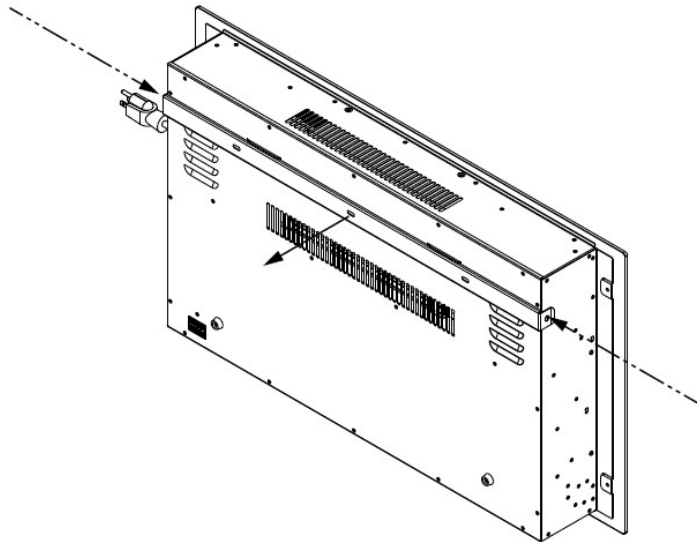
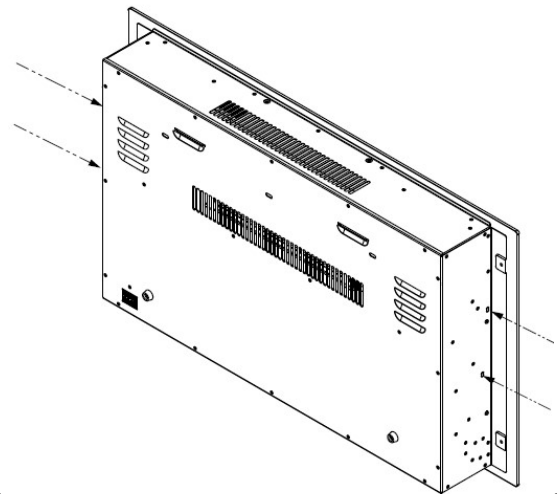

Fig.1
Fig.2
C. Place unit face down on a soft, nonabrasive surface. Remove the bracket from the back of the unit by removing the screws, refer to Figure 1. Remove four pcs of silver screws at both sides, refer to Figure 2.